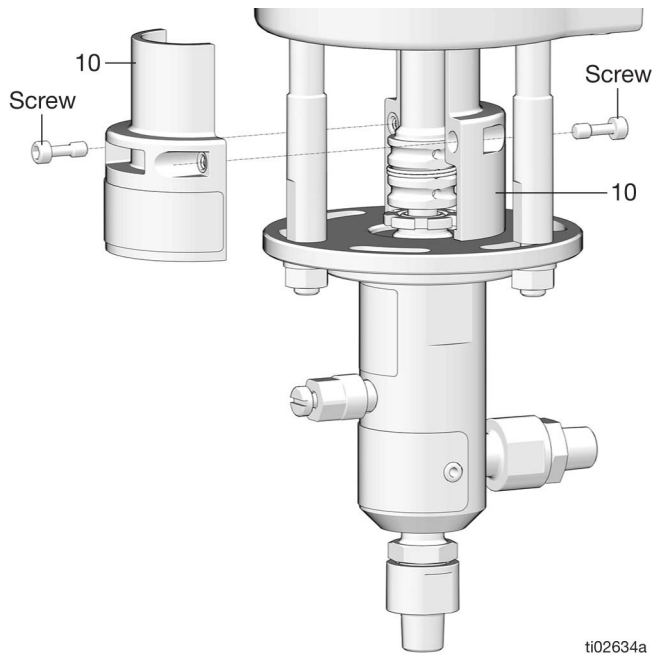

FIG. 5 Remove dust cover
2. Loosen the two screws to remove the dust cover (10) (FIG. 5).
3. Disconnect the pneumatic line and fluid line and remove the dust guard (10). (See FIG. 5)